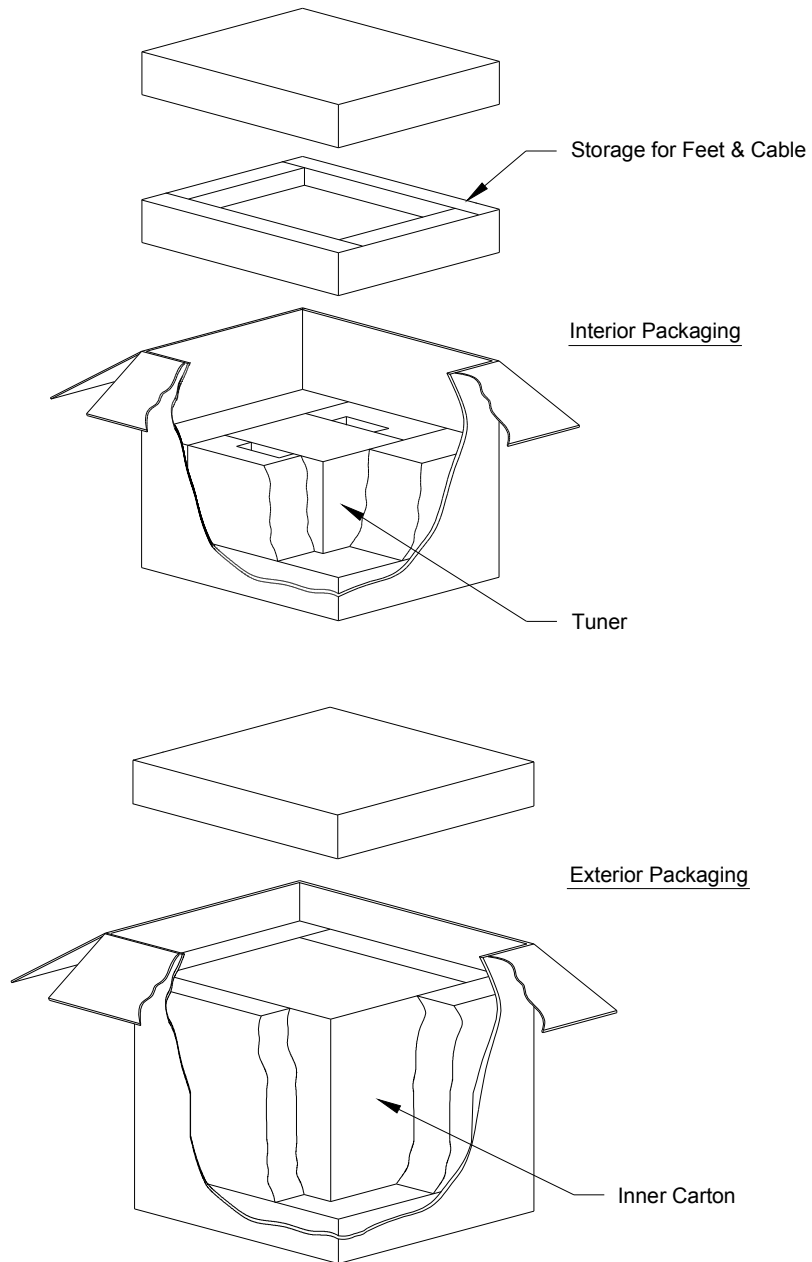

Figure A1. Tuner Packaging
- Remove the locking screw from the storage position and place it in the shipment position. (See Figure A1)